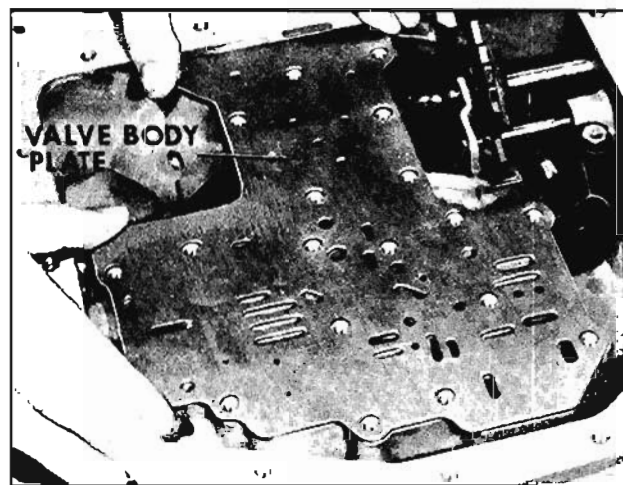

Fig. 6-269 Removing Valve Body Plate and Gasket
11. Remove valve body plate and gasket. (Fig. 6-269)